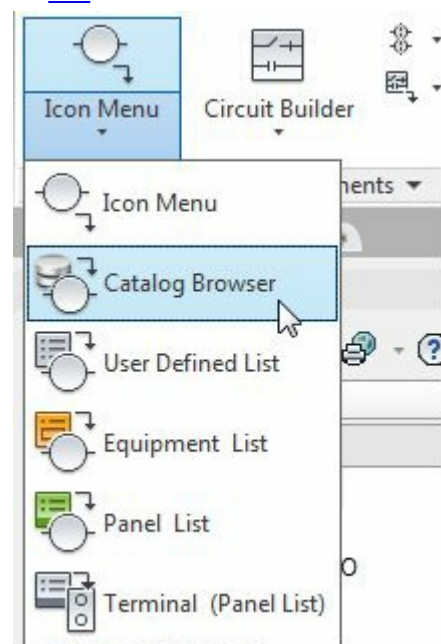

Figure-63. Catalog Browser button
- Click on the **Catalog Browser** button from the **Components** drop-down; refer to Figure-63. The **CATALOG BROWSER** will be displayed.